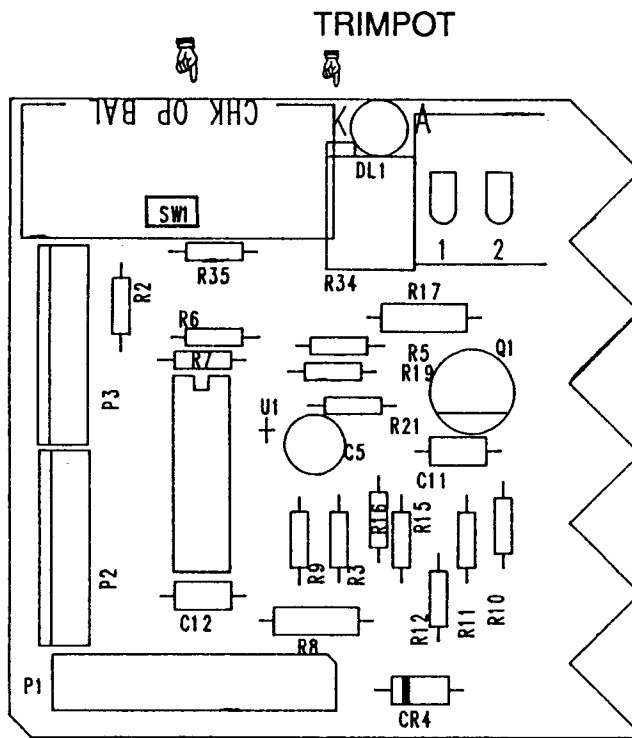

Figure 6-1. SW1 Location on Printed Circuit Board #1
2. Locate SW1 on Printed Circuit Board #1 (refer to Figure 6-1 for the location of SW1). SW1 should be in the OP position for general operating.
3. Locate SW1 on Printed Circuit Board #1 (refer to Figure 6-1 for the location of SW1). Set the SW1 to CHK.
2. Locate SW1 on Printed Circuit Board #1 (refer to Figure 6-1 for the location of SW1). Set the SW1 to BAL. Clean the mirror according to the mirror cleaning procedure in Section 6.2.2. Replace the filter in the RHCM-10 or the shield in the RHCM-20 or RHCM-30 to block ambient light from sensor cavity.
3. To balance the optics, start with the LED off. If it is not off at this point, turn the trimpot counter-clockwise until it is turned off. Then slowly turn the trimpot clockwise until the LED just lights. The trimpot is shown in Figure 6-1. If, after the trimpot adjustment the LED does not light, proceed to Coarse Bias Adjustment in Section 6.2.4.
3. On the Printed Circuit Board #1, move SW1 to the BAL position. Power to the thermoelectric heat pump is interrupted allowing the mirror to warm to ambient temperature. Turn the screwhead of the trimpot (shown in Figure 6-1) next to the LED counter-clockwise until it gives an audible click as it is turned through to the end of its range. Now turn the trimpot 5 turns in the clockwise direction. If the LED lights, then no coarse adjustment is required. Continue to Step 5, otherwise continue to Step 4.